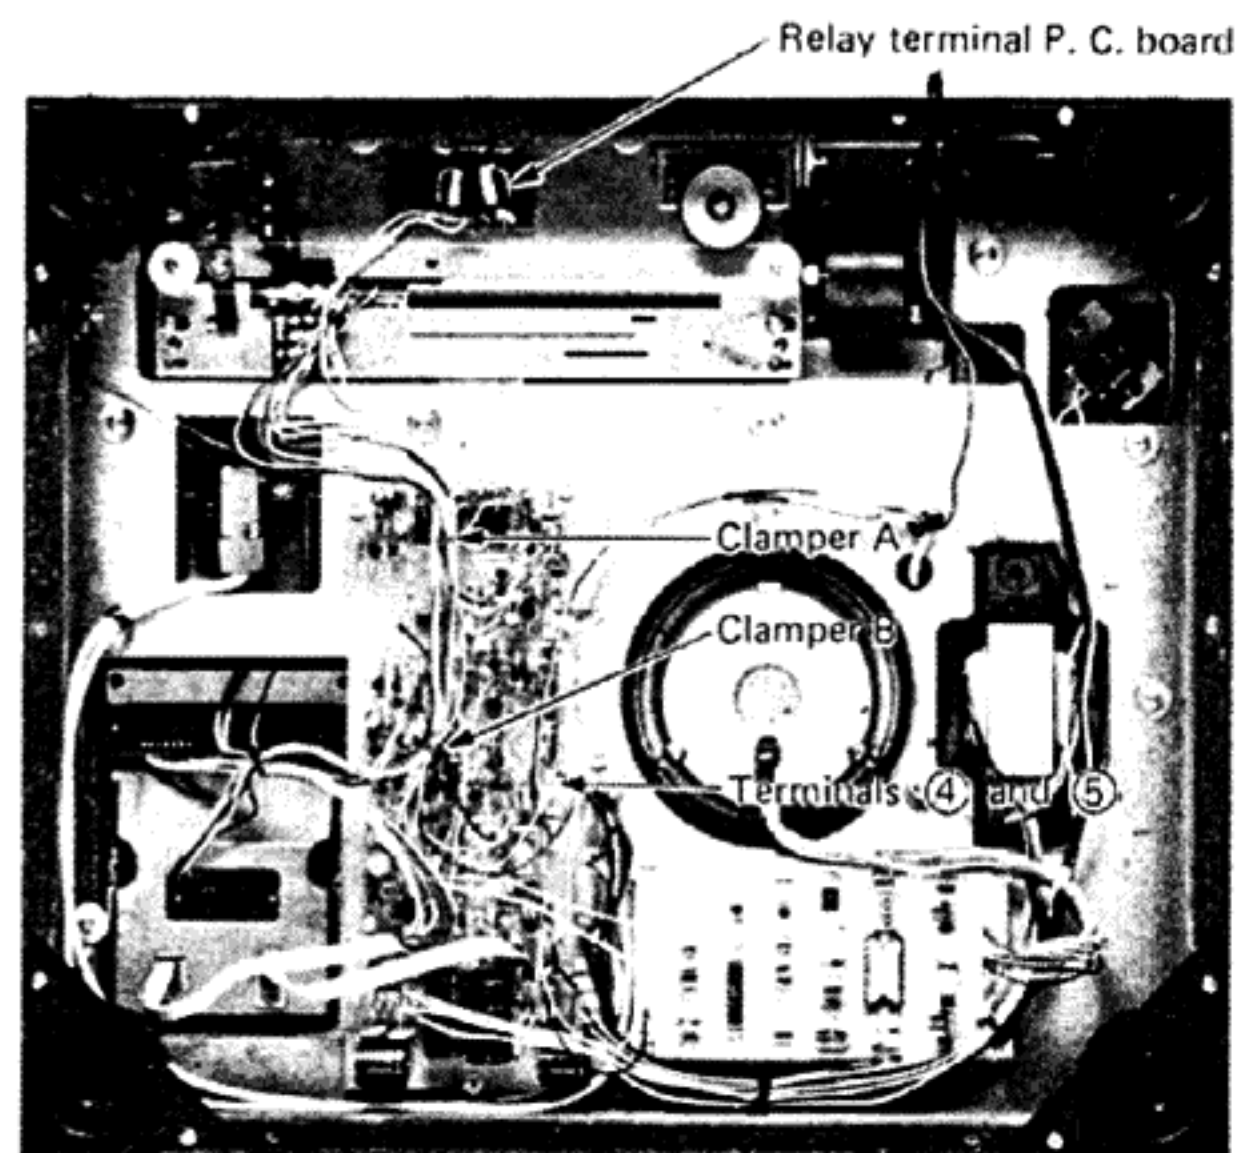

Fig. 1
- Disconnect clampers A and B shown in Fig. 1 and remove connectors CONN-5 and CONN-6.
- Using a soldering iron, disconnect the following wires from the tonearm base: lead wires (red and black) leading to terminals ④ and ⑤ of the logic P. C. board, and the shield wires (red and white) and the black wire leading to the relay terminal P. C. board.